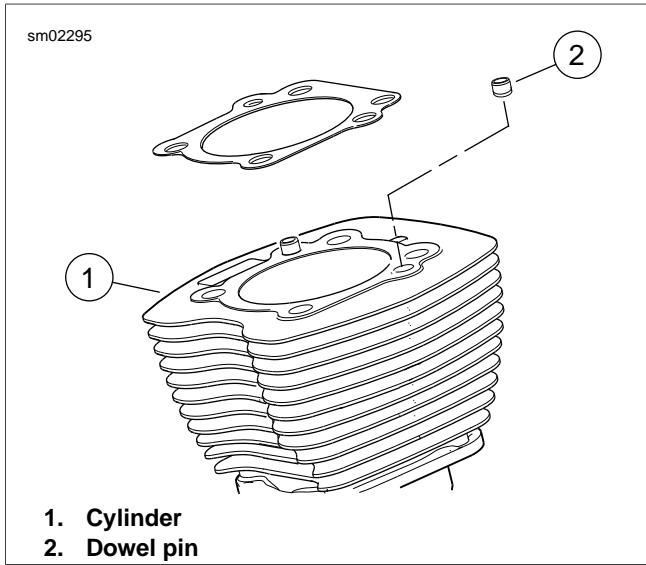

Figure 3-34. Cylinder Dowel Pins
1. See Figure 3-34. With the part number face up, place the head gasket over the two dowel pins in the upper flange of the cylinder.